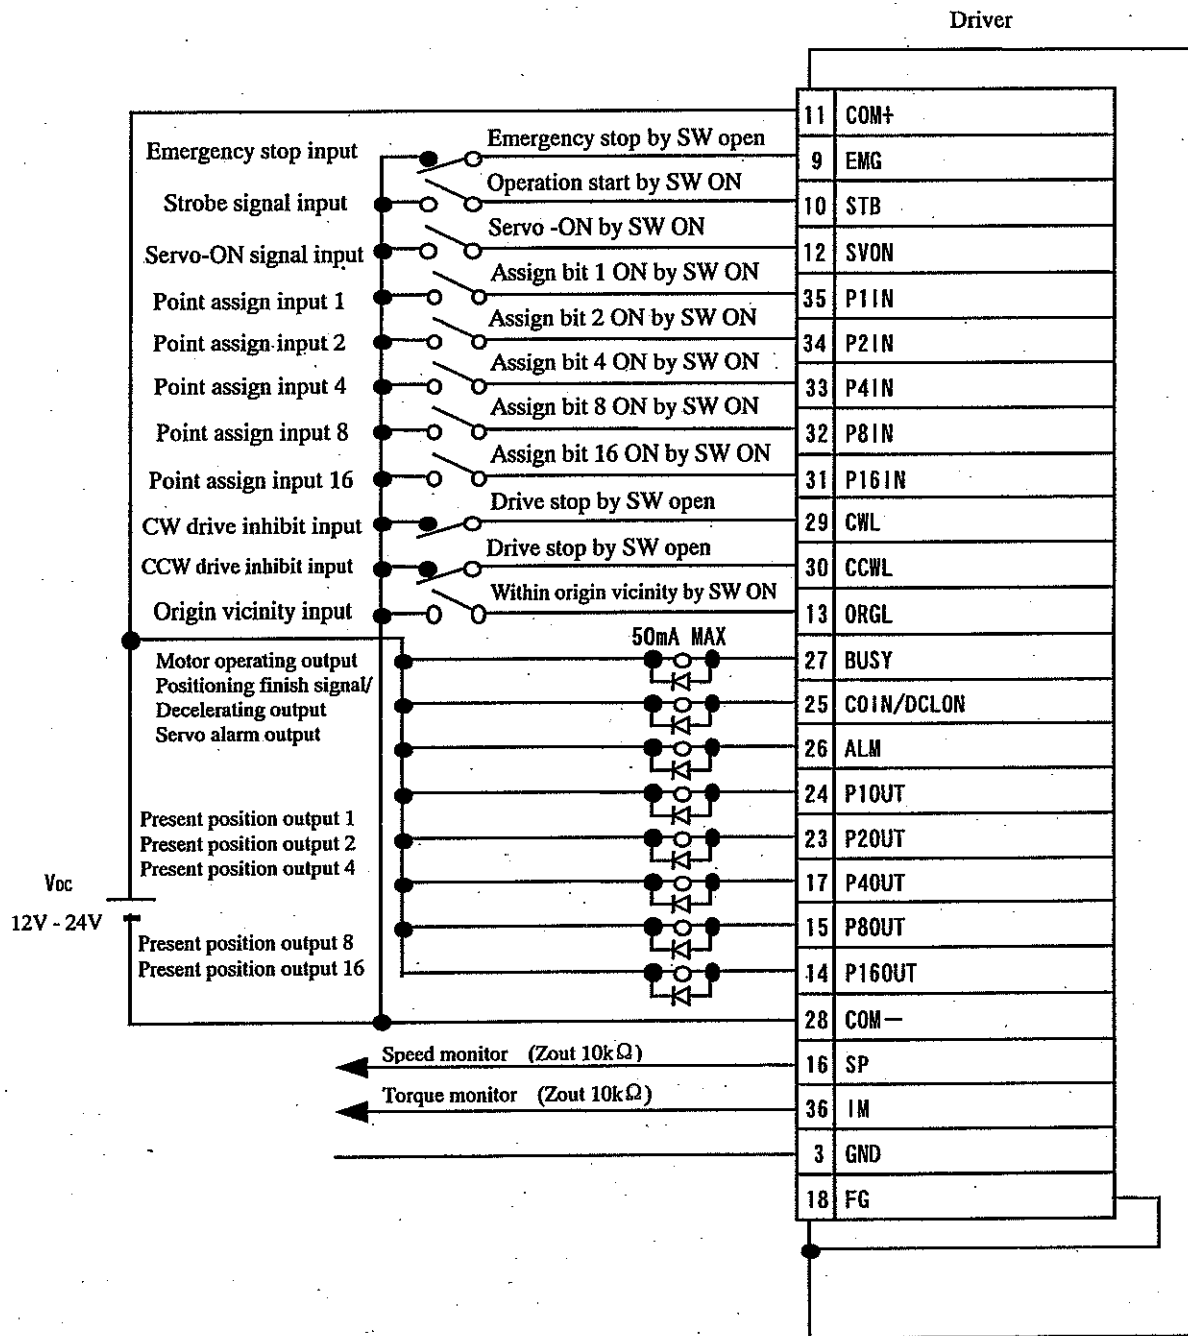

Fig. 6-2 Wiring example to connector I/F
- (1) For wiring, refer to Fig. 6-2 "Wiring example to connector I/F".
- (2) Supply DC 12-24V control signal power supply for external control connected between COM+ and COM- by the customer.
- (3) Install the position driver and the peripheral equipment within 3m in between to shorten the wiring.
- (4) Wire the power lines (R,S,T,U,V,W,⊕) by separating 30cm or more. Do not pass through the same duct and do not bind together, to prevent error operation.
- (5) Do not apply DC24 V, 50mA and above to each terminal of the control output (BUSY, ALM, COIN/DCLON P1OUT - P16OUT) and do not apply voltage in reverse polarity. It may break the position driver.
- (6) When a relay is directly driven at the control output terminal, fit diode in parallel with the relay in the direction shown in Fig. 6-2. If diode is not fit or fit reversely, the position driver will be broken.
- (7) Either positioning finish signal (COIN) or decelerating output signal (DCLON) can be selected and used by setting of parameter. For details, refer to section 10-2-4 "NC data" (Page 33).
- (8) Frame ground terminal (FG) is connected with the earth terminal (⊕) inside the driver.
- (9) Drive inhibit input signal (limit) is defined as CW drive inhibit input (CW limit) when rotating the servo motor to CW direction and as CCW drive inhibit input (CCW limit) when rotating to CCW direction. CW direction and CCW direction are defined here as the following: